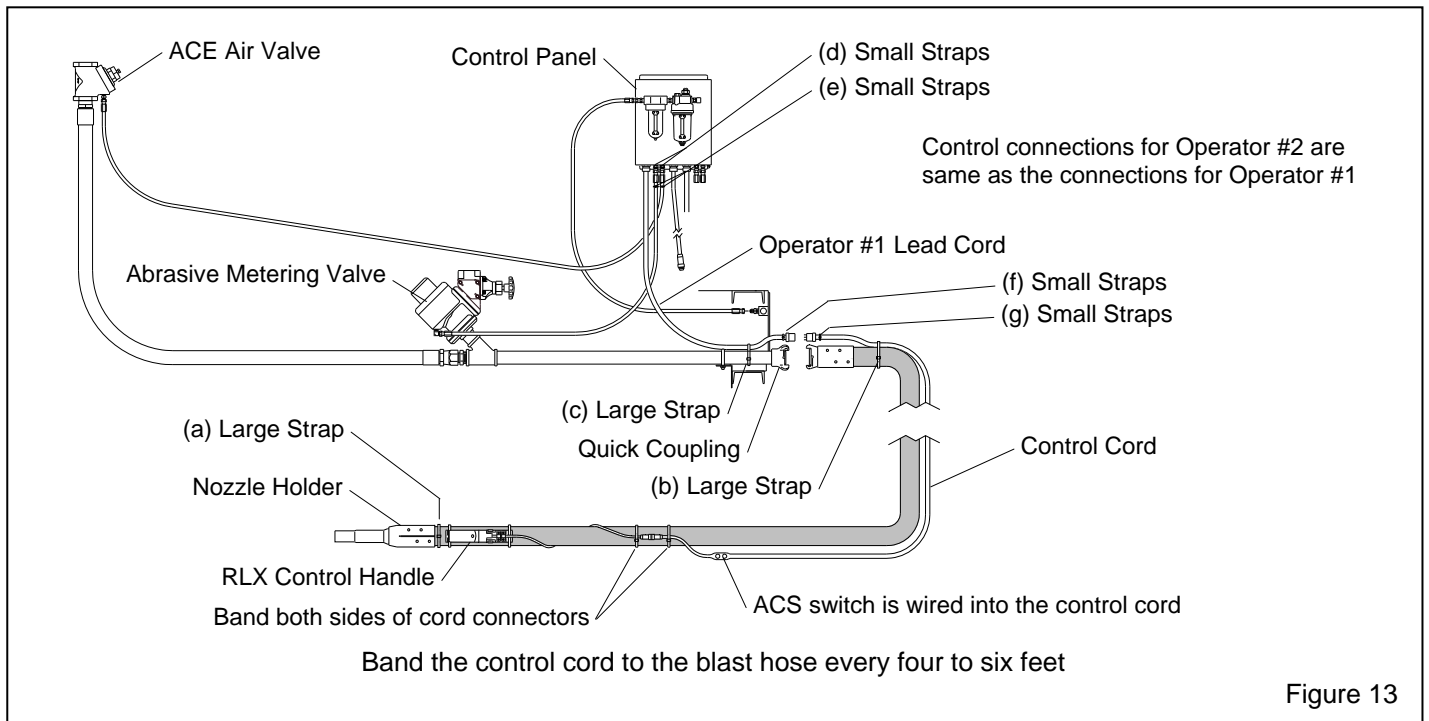

Figure 13
2.4.4 Color-Coding Electric Operator Stations, Figure 13
2.4.4.3 The hose identification kit contains sets of colored straps. Use straps of the same color to color-code the blast hose, control hoses and cords for each operator station. Use red and blue with two operator stations, use green and yellow for operator stations three and four. The letters corresponds to the letters shown in parenthesis in Figure 13.